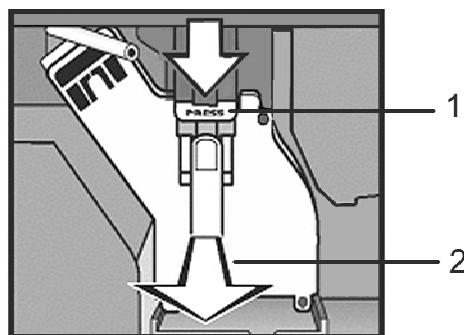

Figure 5-19: Brew Unit – Removal for Cleaning
2. Grasp the brew unit by the handle and press with the thumb on "PRESS". (Figure 5-19, Item 1).
3. Pull outward to remove the Brew Unit (Figure 5-19, Item 2).